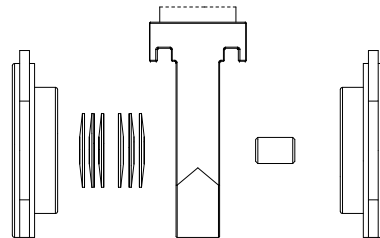

Fig.01
3. Unscrew the hexagon socket screws (29) from the top flange (11).
4. For manual operated valves screw the yoke sleeve (13) together with the needle bearing (26) from the stem (10).
5. Loosen the bolts (22) from the guiding plate (15) and remove it. Unscrew the stands (12) out of the valve body (01). Unscrew gland bolting/nuts (17-09) and remove them. Remove the gland (07) and gland-bushing (08).
6. Unscrew the bolts (29) from the retaining ring (18) and unscrew the retaining ring (18) from the bonnet (04), whilst holding up the stem/disc assembly, to secure the bonnet (04) preventing it damaging the stem (10).
7. After the retaining ring (18) has been removed, lower the stem/disc assembly and bonnet (04). Remove the segmental ring (21) out of the valve body (01), by pressing a punch through the provided bore holes. Now remove the ring (20) and gasket (19), together with the bonnet (04) and stem/disc assembly, by pulling the stem/disc assembly out of the valve body (01).
8. Dis-assemble the disc assembly by rotating the first disc (03) 90°, so that the lip will come out of the disc holder (16). Afterwards remove the belleville spring set (06) and pin, see fig.01 and finally remove the second disc (03) by rotating it 90°.
- A. SEAT (02) - Sealing surface
- B. STEM (10) - Packing area
- C. DISC(S) (03) - Sealing surface
- D. BACKSEAT (04) - Sealing surface
3. Place the belleville springs (06) and pin (as indicated in Fig.01) into the first disc (03). Place this disc (03) into the disc holder (16) and rotate it 90° securing the lip in the provided groove located in the disc holder (16). Afterwards install the second disc (03) and rotate it 90° securing the lip in the provided groove located in the disc holder (16) as well.
4. Place the bonnet (04) over the stem/disc assembly. Pull up the stem/disc assembly to avoid the bonnet (04) from dropping in the valve body (01). Install a new gasket (19) in the valve body (01), with the gasket ring (20) on top of it.
5. Place the segmental ring (21) inside the provided groove located in the valve body (01). Make sure there is no split between two segments placed in front of a disassembly hole. Pull up the stem/disc assembly together with the bonnet (04) through the segmental ring (21). Screw the retaining ring (18) on the bonnet (04) and tighten it. Screw the bolts (29) into the retaining ring (18) and evenly tighten them.
6. Place packing (05) (first with markings down, second with markings up) over the stem (10) into the bonnet (04). Place the gland bushing (08) over the stem (10) followed by the gland flange (07) and secure them with the gland bolting (17/09). Tighten the nuts (09) to compress the packing (05). Loosen the nuts (09), then tighten them carefully again.
7. Screw the stands (12) into the valve body (01) as indicated. Place the guiding plate (15) over the stem (10) on top of stand number 2 and 5. Secure the guiding plate (15) with the hexagon socket screws (22/23) through the slot provided in the stem (10).
8. For manual operated valves screw the yoke sleeve (13) together with the needle bearing (26) on the stem (10).
9. Place the top flange (11) on top of the stands (12) and secure them with the hexagon socket screws (29).
10. For manual operated valves rotate the yoke sleeve (13) against the top flange (11), place the parallel key (24), handwheel (14) and secure it with the handwheel nut (32).
11. Pressurise the system and check the packing (05) and gasket (19).